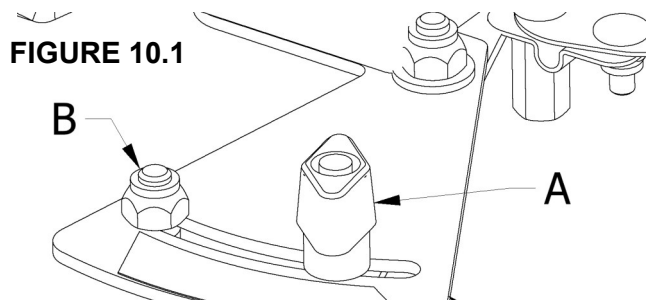

FIGURE 10.1
- The **HIGH GEAR** Spreader Rate Adjuster (**FIGURE 10.1**) is
- Referring to **FIGURE 10.1**, position the Black **HIGH GEAR** Rate Adjuster Knob (A) against the **HIGH GEAR** stop bolt (B)
- Referring to **FIGURE 10.1**, move the Black **HIGH GEAR** Rate Adjuster Knob counterclockwise to the left most position in the curved slot in the **HIGH GEAR** Rate Adjuster Bracket (**FIGURE 1-C**).
- Once your Pre-Calibrated **HIGH GEAR** setting is adjusted, reposition the stop bolt (**FIGURE 10.1-A**) against the Rate Adjuster Knob (**FIGURE 10.1-B**) to lock in your Pre-set location. A 3/16" Allen wrench is required.